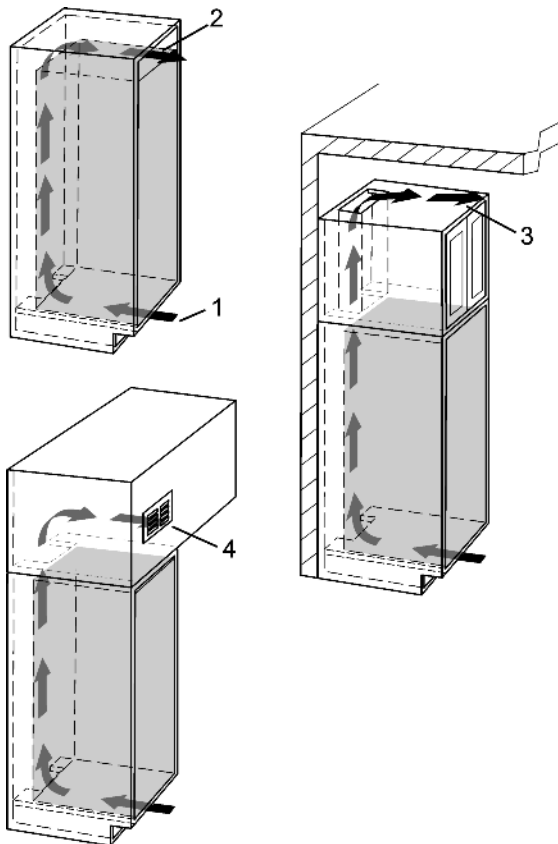

Fig. 4
- There must be a ventilation space at least 31 in² (200 cm²) at the airflow inlet *Fig. 4 (1)* and at the airflow outlet *Fig. 4 (2)*.
- The top ventilation space can be either directly over the appliance *Fig. 4 (2)* or next to the ceiling over a cabinet *Fig. 4 (3)*, or through a vent installed in a soffit *Fig. 4 (4)*.